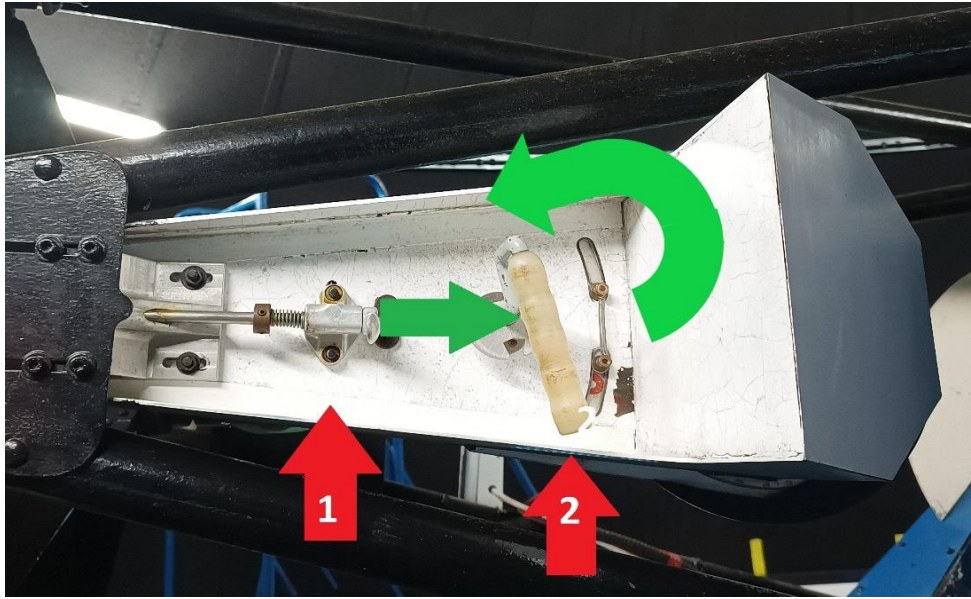

Fig. 12: Secondary Mirror Cover (shown in the open position)
(See Fig. 12 below) Slide unlocking lever (1) in direction as shown by green arrow, at same time twist handle (2) 90 degrees and PUSH handle (2) AWAY from you to swing the arm 90 degrees to close onto the secondary mirror. Lock the clamping mechanism into place around the mirror by twisting the lever (2) around it and releasing.